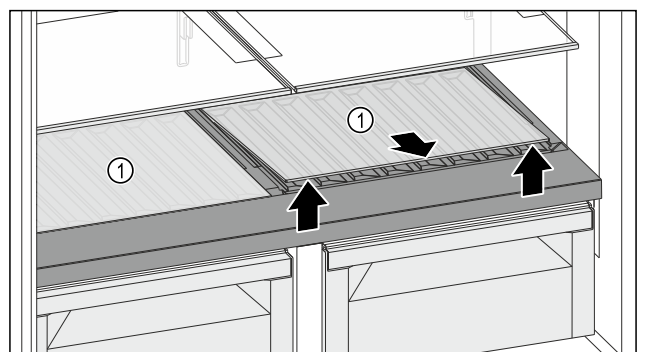

Fig. 117
- ▶ Lift one or both of the glass shelves Fig. 117 (1) in the front at the recess and pull it/them out.
- ▶ Store the glass shelf(ves) Fig. 117 (1) somewhere safe outside of the appliance.